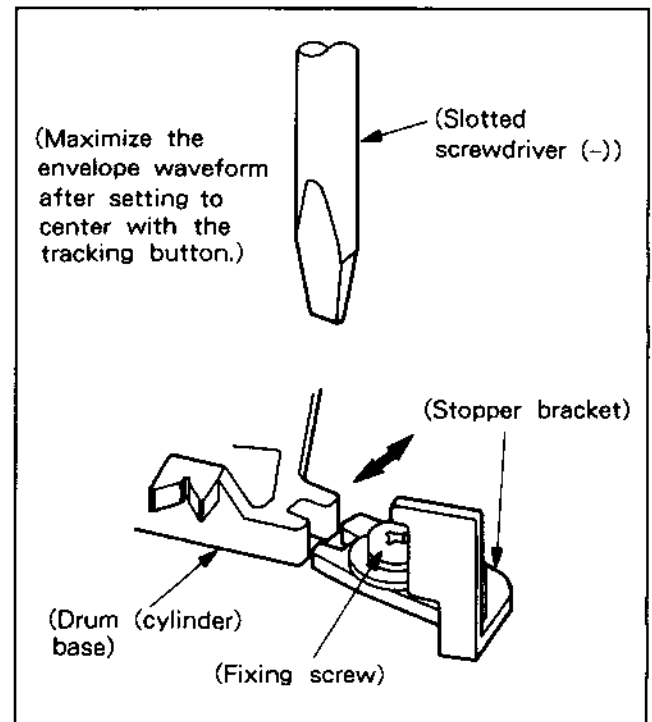

Fig. 5-4-8.
(2) Tracking (X Value) Adjustment (See Fig. 5-4-8.)